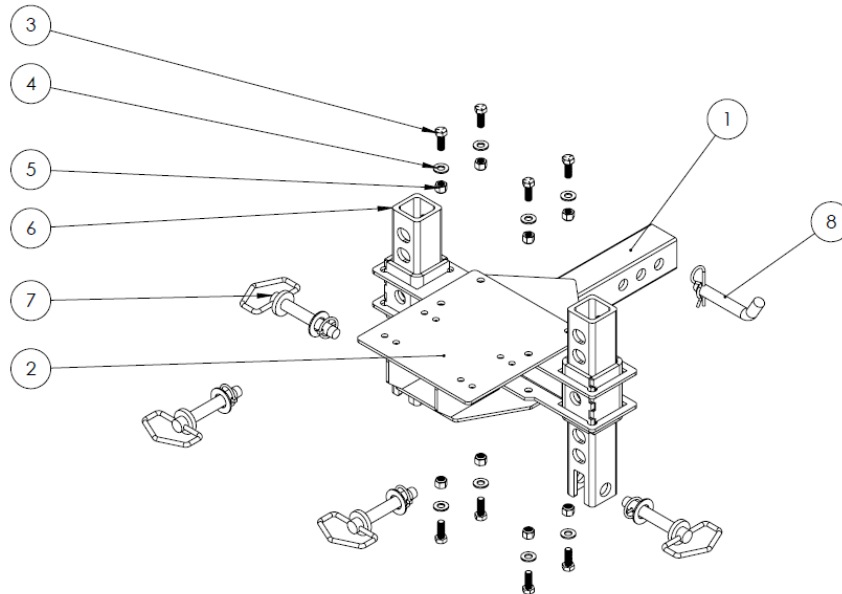

Figure 1
Kit Content: Please refer to Figure 1
2. Insert the (2) MA11770 2" Receiver Plow Mount Tabs as shown in Figure 1. Secure the tabs with the remaining (2) short Quick Release Pins. The height of the Mounting Tabs should be equal and the plow pushtube system should ride parallel to the ground for optimal plowing conditions.
- a. If you opt to use the Winch Mount Attachment Bracket, align the Winch Attachment Bracket to the 2" Receiver Plow Mount as shown in Figure 1 and secure it using the (8) 3/8" x 1" Hex Bolts, Washers and Nuts. Secure your winch to the provided fairlead bracket, then attach your fairlead. It is recommended to use the plow pulley fairlead available on Motoalliance.com